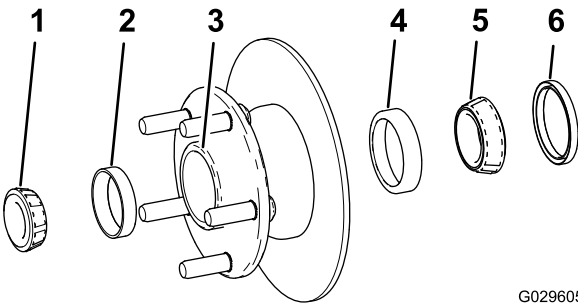

Figure 31
- Remove the outboard bearing and bearing race from the hub (Figure 31).
- Remove the seal, inboard bearing and bearing race from the hub (Figure 31).
- Clean the cavity of the hub of all grease, dirt, and debris (Figure 31).
- Install the inboard and outboard bearing races into the hub (Figure 31).
- Fill the cavity of hub 50 to 80% full of the specified grease (Figure 31).
- Assemble the inboard bearing onto the race at the inboard side of the hub and install the seal (Figure 31).